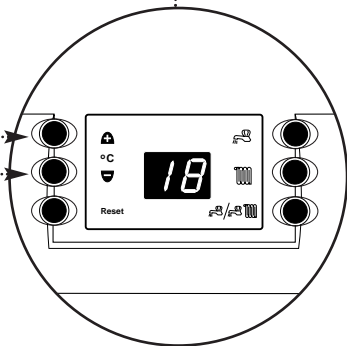
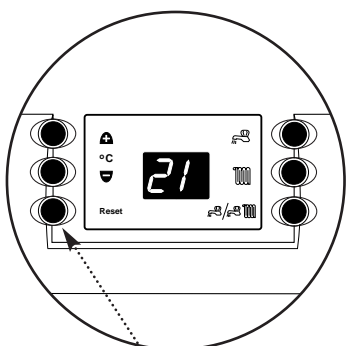

Fig. 35
Fig. 37
a) While On or OF is shown on the display i.e. no CH or DHW demand ongoing. Depress the "+" and "-" Temperature Control Buttons at the same time for 5 seconds. The display will show "18" (Fig. 35) where the "1" indicates that the installer parameter for range rating has been accessed and the "8" indicates that the boiler is presently set for a maximum Central Heating output of 80,000 Btu/hr.
3. **The boiler is factory set with the pre-heat feature on.** If it is required to disable this feature then depress the "+" and "-" Temperature Control Buttons at the same time for 5 seconds. The display will show "18" or "10" (Fig. 35 or 36). Press the Summer/Winter Mode Button marked (☀/❄) and the display will show "21" (Fig. 37). The "2" indicates that the installer parameter for pre-heat has been selected. The "1" indicates that the pre-heat is switched on.